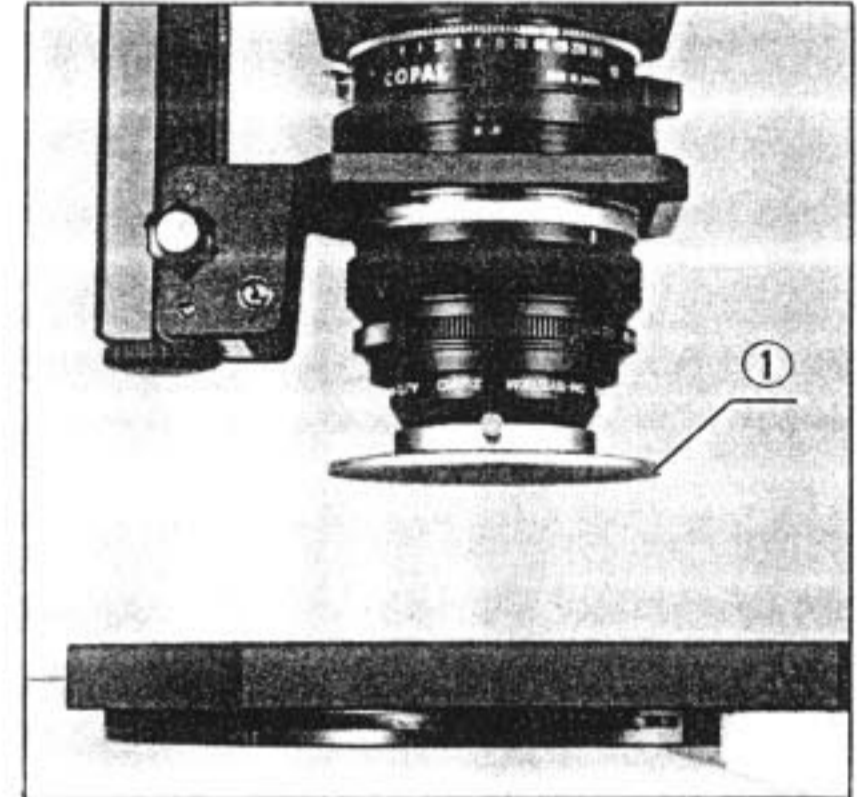

Fig. 21
The Lieberkuhn reflectors PM-LM38 and PM-LM20, both optionally available, are used for photomacrography of a specimen within a diameter of 25 mm. The PM-LM38 ① mounted on the macro lens 38 mm, or the PM-LM20 mounted on the macro lens 20, receives parallel light from a substage mirror and directs to the specimen. The shadowless light reflected by the Lieberkuhn is soft with very little glare. (Fig. 21)